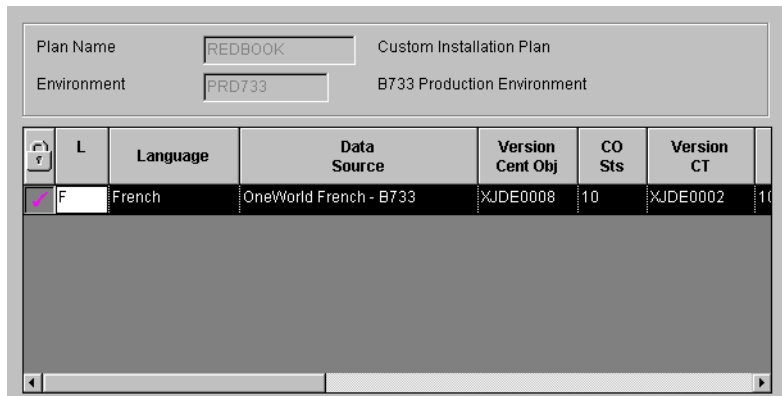

Figure 258. OneWorld language selection
1. Double-click your alternate language (ensure that the pink check mark appears). Your display should look similar to the example in Figure 258 on page 488.